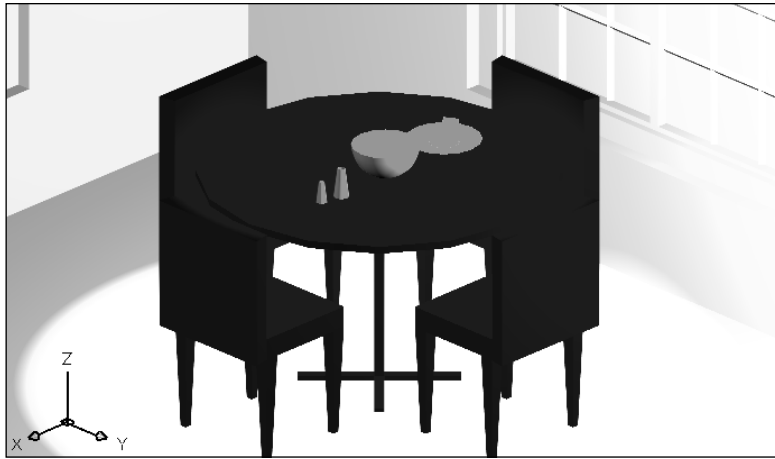

Figure 25-13: A rendering with lights but no shadows.
13. Choose Render from the Render toolbar. Crop Window should be unchecked. Change the Light Icon Scale to 24 so you can see the icons that AutoCAD creates at the location of each light you've created. (You should use the drawing scale factor.) In the Rendering Type drop-down list, choose Photo Real. Shadows should be unchecked. Click Render. The rendering should take less than a minute. It should look like Figure 25-13. There is more than enough light this time—but remember, you wouldn't normally eat breakfast with all the lights on. Notice the effect of the yellow point light.